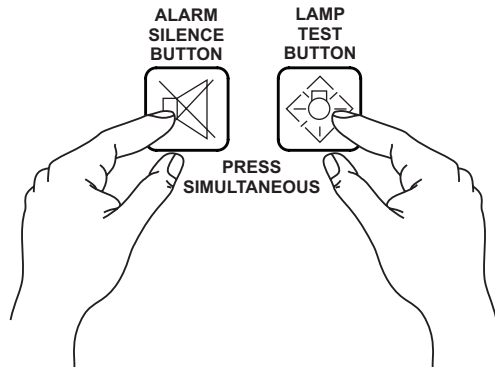

Figure 107. Alarm Silence And Lamp Test Buttons
1. Press and hold the **Alarm Silence** and **Lamp Test** buttons (Figure 107) at the same time for 10 seconds.